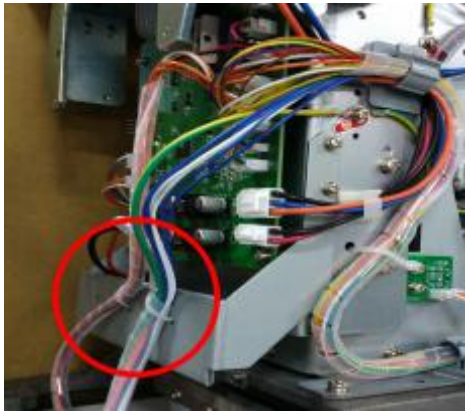

Fig 7.1-1
- 2.Remove line deduction, cut the line tie, as shown Fig 7.1-1, then screw out four M3 * 8 three combination screws, take out stand backplane, as shown Fig 7.1-2.